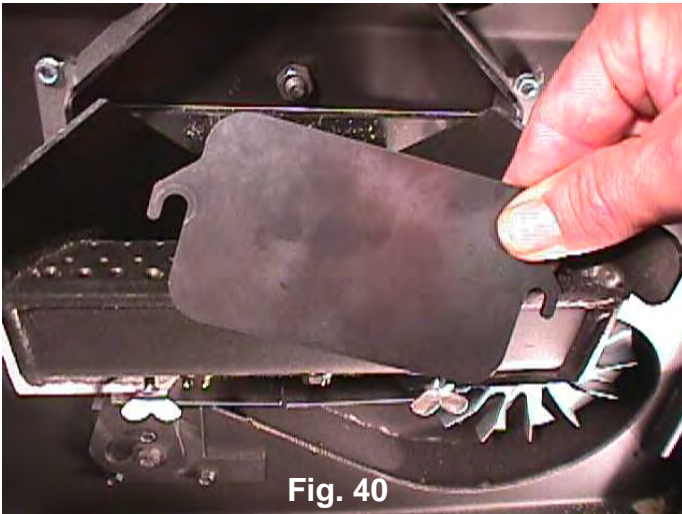

Fig. 40
Approximately once per month, clean out the air-flow portion of the burn pot: 1. Loosen the (2) wing thumb screws on the lower front angle of the burn pot. (Fig. 40)
2. Lift off the clean-out cover (Fig.40) to open the bottom clean-out chamber. (Fig.41)